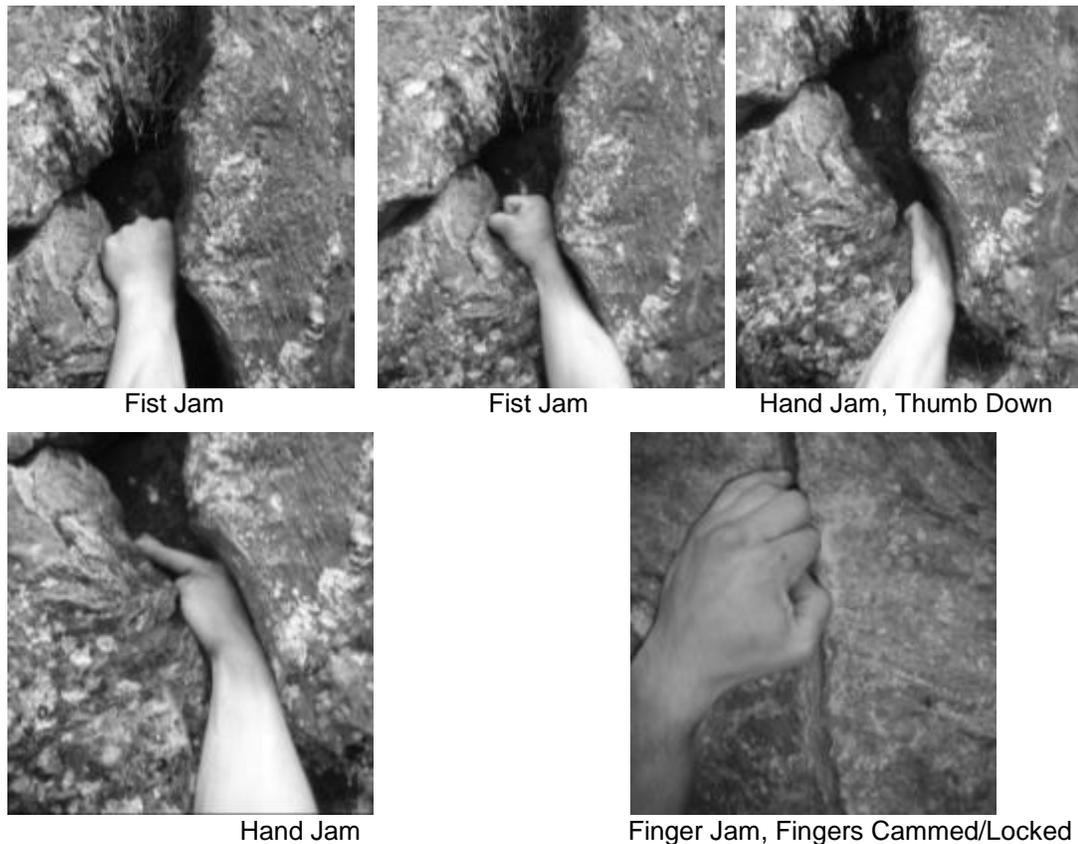

Figure 21-8
(5) Jams. (Fig 21-8) Jamming is wedging fingers, hands, arms, feet, knees, legs and/or any other portion of the body into cracks and lodging them securely enough to bear weight. Jamming or crack climbing is less instinctive, but often more secure than other types of holds. Each movement should be very deliberate. Thrashing about and desperate pawing at the rock are useless and tiring. Before moving a hand or foot, look ahead, select a prospective place, then move the hand or foot to the new jam position and lock it in place. Cracks come in all sizes, from narrow to wide.